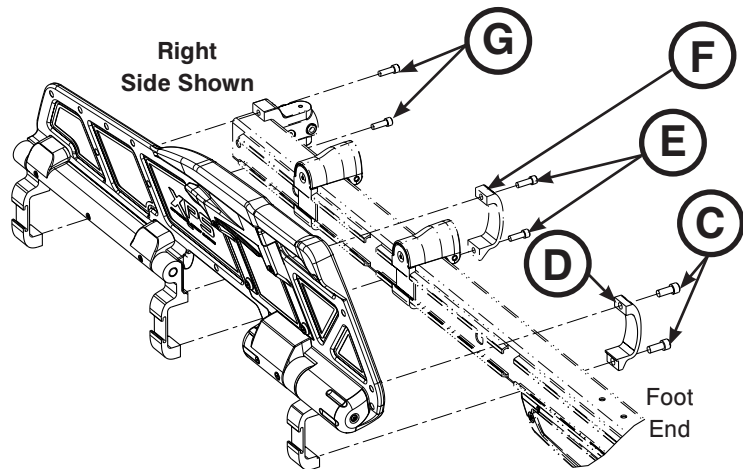

Figure 82
5. Using a 1/4" hex wrench, remove the socket head cap screws (C) that secure the siderail clamp (D) to the ratchet assembly at the foot end of the main assembly (Figure 82). During installation, torque both new screws to 22 ± 3.3 ft-lb.
6. Using a 3/16" hex wrench, remove the two socket head cap screws (E) that secure the middle siderail clamp (F) to the outer rail assembly (Figure 82).
7. Using a 3/16" hex wrench, remove the two socket head cap screws (G) that secure the top and bottom of the base/litter interface bracket to the outer rail assembly (Figure 82).